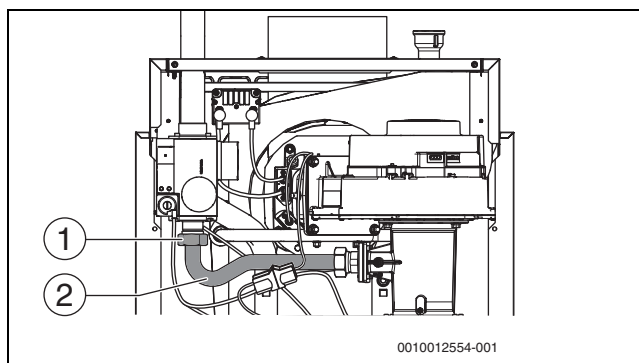

Fig. 41 Union nut with gas pipe
- Undo the union nut (→ Fig. 41, [1]) of the gas supply pipe (→ Fig. 41, [2]).